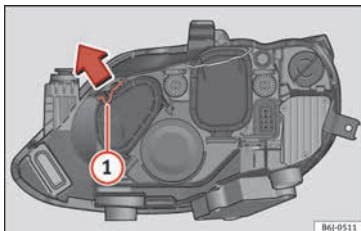

Fig. 97 Double headlight.
- Move the loop **1** in the direction of the arrow and remove the cover » **Fig. 97**.